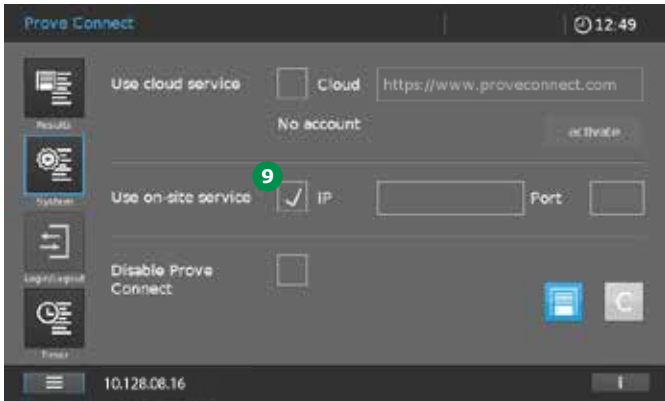

Figure 37 - Screenshot of Prove Connect menu after clicking on it in Figure 36
5. Set the checkmark for "Use on-site service" (Figure 37).
6. Enter the IP address (10) and Port (11) (Figure 37) shown in the Prove Connect to LIMS status bar into the instrument.